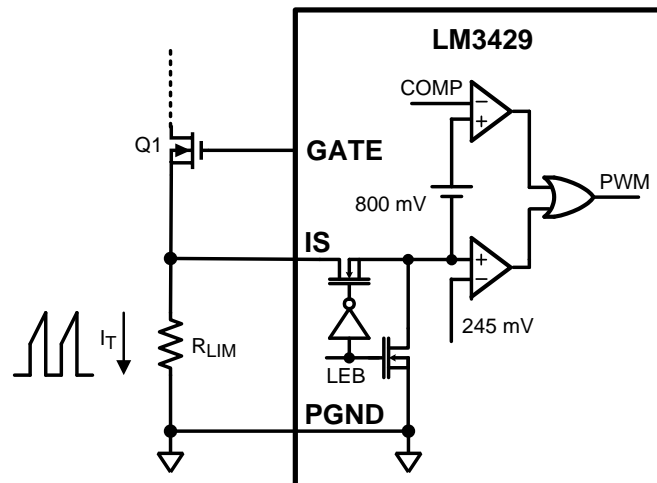

Figure 17. Current Sense / Current Limit Circuitry
The LM3429 achieves peak current mode control using a comparator that monitors the MosFET transistor current, comparing it with the COMP pin voltage as shown in Figure 17. Further, it incorporates a cycle-by-cycle overcurrent protection function. Current limit is accomplished by a redundant internal current sense comparator. If the voltage at the current sense comparator input (IS) exceeds 245 mV (typical), the on cycle is immediately terminated. The IS input pin has an internal N-channel MosFET which pulls it down at the conclusion of every cycle. The discharge device remains on an additional 250 ns (typical) after the beginning of a new cycle to blank the leading edge spike on the current sense signal. The leading edge blanking (LEB) determines the minimum achievable on-time (t_{ON-MIN}).